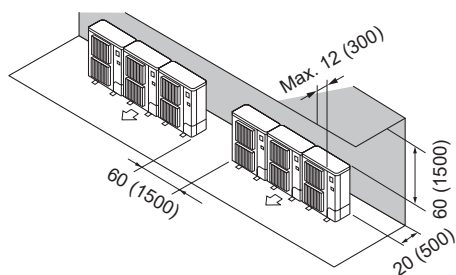

Fig. 2-12
- ② Obstacles at rear and above (Fig. 2-12)